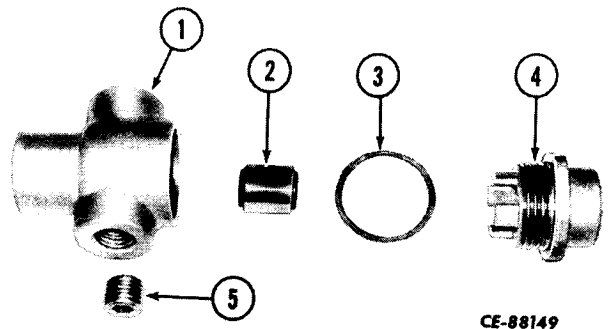

Figure 13-50
Lightly oil the seat (2, Fig. 13-50) prior to assembly. Insert the seat in the body (1). Place the gasket (3) on the cap (4) and install in the body (1). Install the plug (5) in the body.